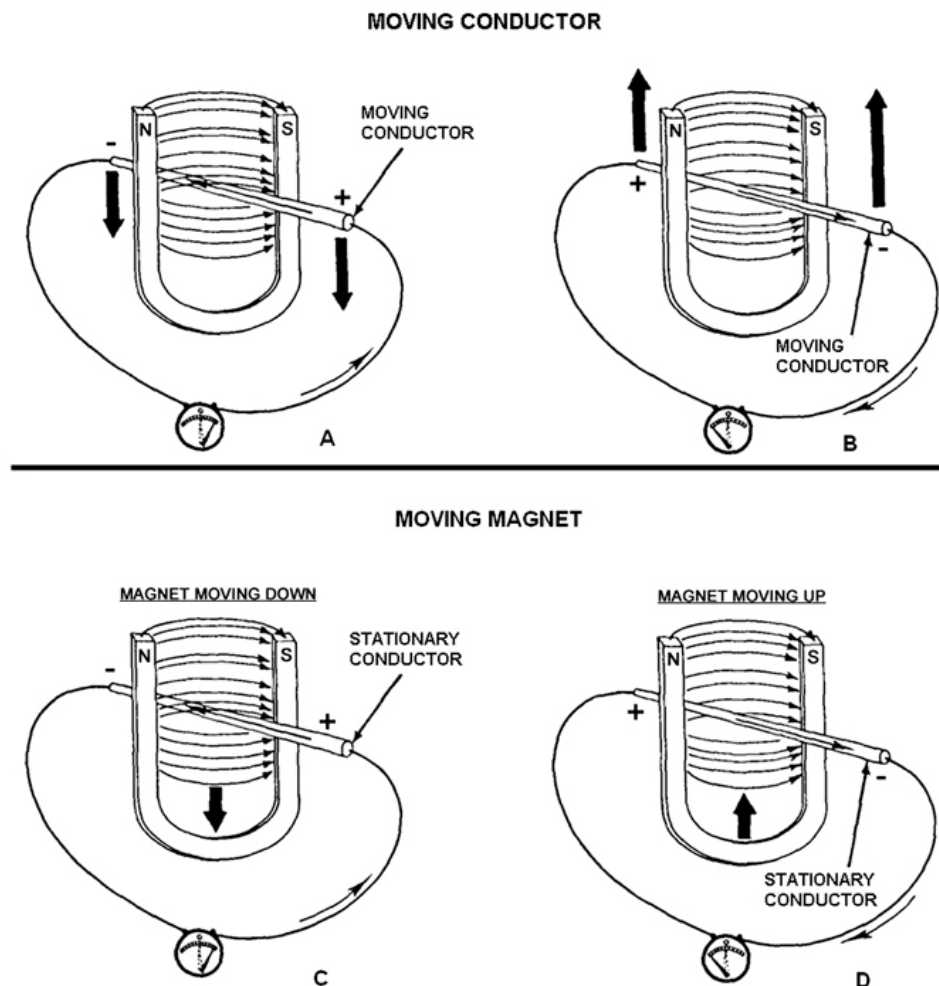

Figure 4-7. Electromagnetic induction.
AC generators are the major source of AC voltage. You can send the power supplied over great distances without too much loss of power. You use AC voltage to light your house and to run your appliances. The generator changes mechanical energy to electrical energy by the principle of electromagnetic induction. For this type of voltage production, three things are required: (1) a magnetic field, (2) a conductor, and (3) relative motion. Voltage and current are produced when a conductor cuts the magnetic field of a magnet. This is shown in figure 4-7.